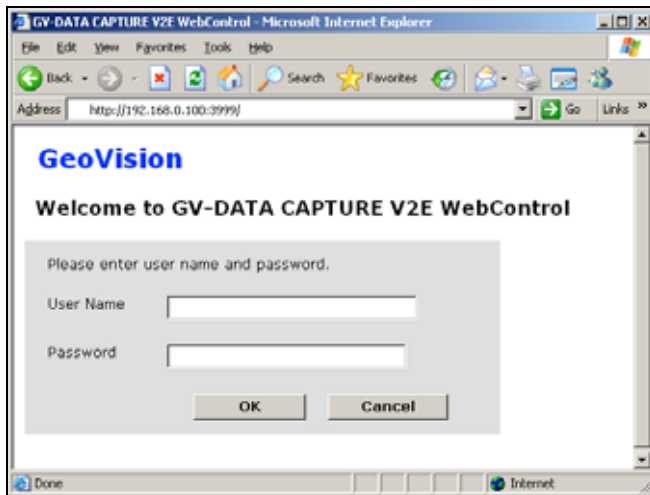

Figure 4
Figure 4 page appears.
7. If you need to change or view the configurations of GV-Data Capture V2E, click **Browse Device Setting**, and *Figure 4* page will appear.
6. If you need to change or view the configurations of GV-Data Capture V2E, click **Browse Device Setting**, and *Figure 4* page will appear.